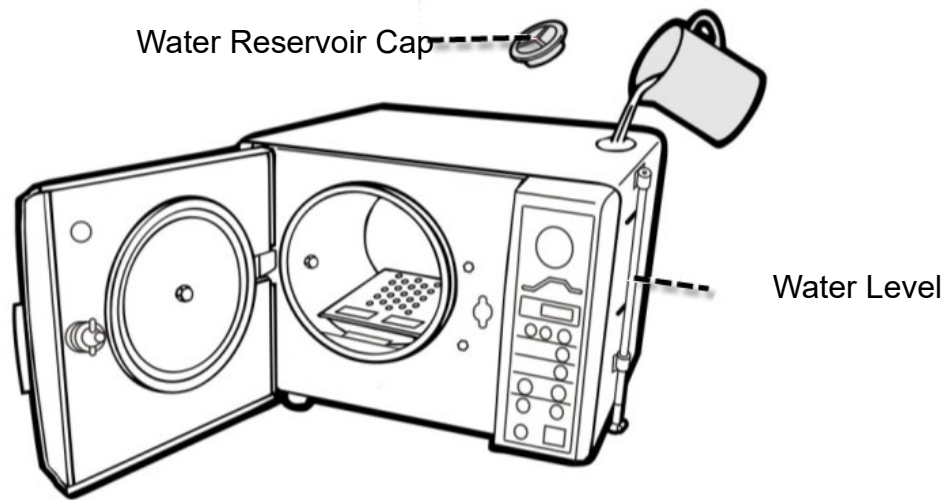

Figure 2
- A. Open the water reservoir cap; pour distilled water into the water reservoir as Figure 2.